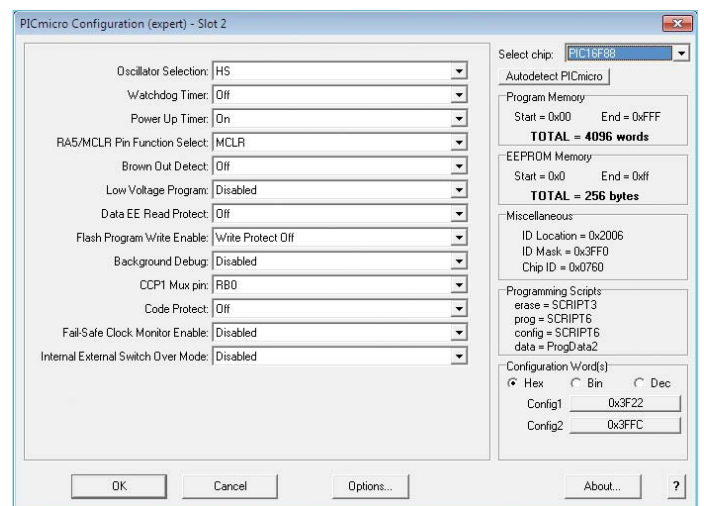

Figure 3. Flowcode method of configuring TMR0 for interrupts.
Step 3. With the receiver part working it was possible to proceed with the actual dimmer part of the software. This uses the TMR0 interrupt on overflow, and it's used for zero crossing detection as well as a timer to define the triac firing instant. This is done by means of a Flowcode interrupt component to enable the TMR0 interrupt, choosing TMR0 as interrupt source, T0CKI as clock source, the Low to High transition as the clock, and setting the prescaler to 1:1; see the screendump in **Figure 3**. Using a C code component to preset the TMR0 to 0xFF will enable the zero crossing detector as an overflow will occur at the first zero crossing of the AC line voltage. This in turn will call the macro called 'Fire_triac' containing a decision component at the start that decides which way to branch in the program. If Enable_trigger = 1 the triac will be fired, Enable_trigger is reset to zero, and TMR0 is ready to overflow on the next zero crossing. If Enable_trigger = 0 TMR0 is loaded with a value so that it will produce an overflow when the triac is due to fire.
Now the program goes into 'loop forever', this is where the actual DMX data byte receiving is performed (one of Apple's head offices in Cupertino CA, is at the address: 1, Infinite Loop). First, the program has to detect a 'break' on the DMX line. This is done in the outer loop where frame errors on received bytes are detected. Once bytes without frame errors are received the next thing to test for is a Start of Frame (SOF) byte, which for dimmer modules equates to 0x00h. If it was a SOF byte, then the next thing to do is count the received bytes until the selected DMX address is reached, then copy the received DMX data to the register used in the TMR0 macro, that's it! A part of this routine is shown in **Figure 3**.